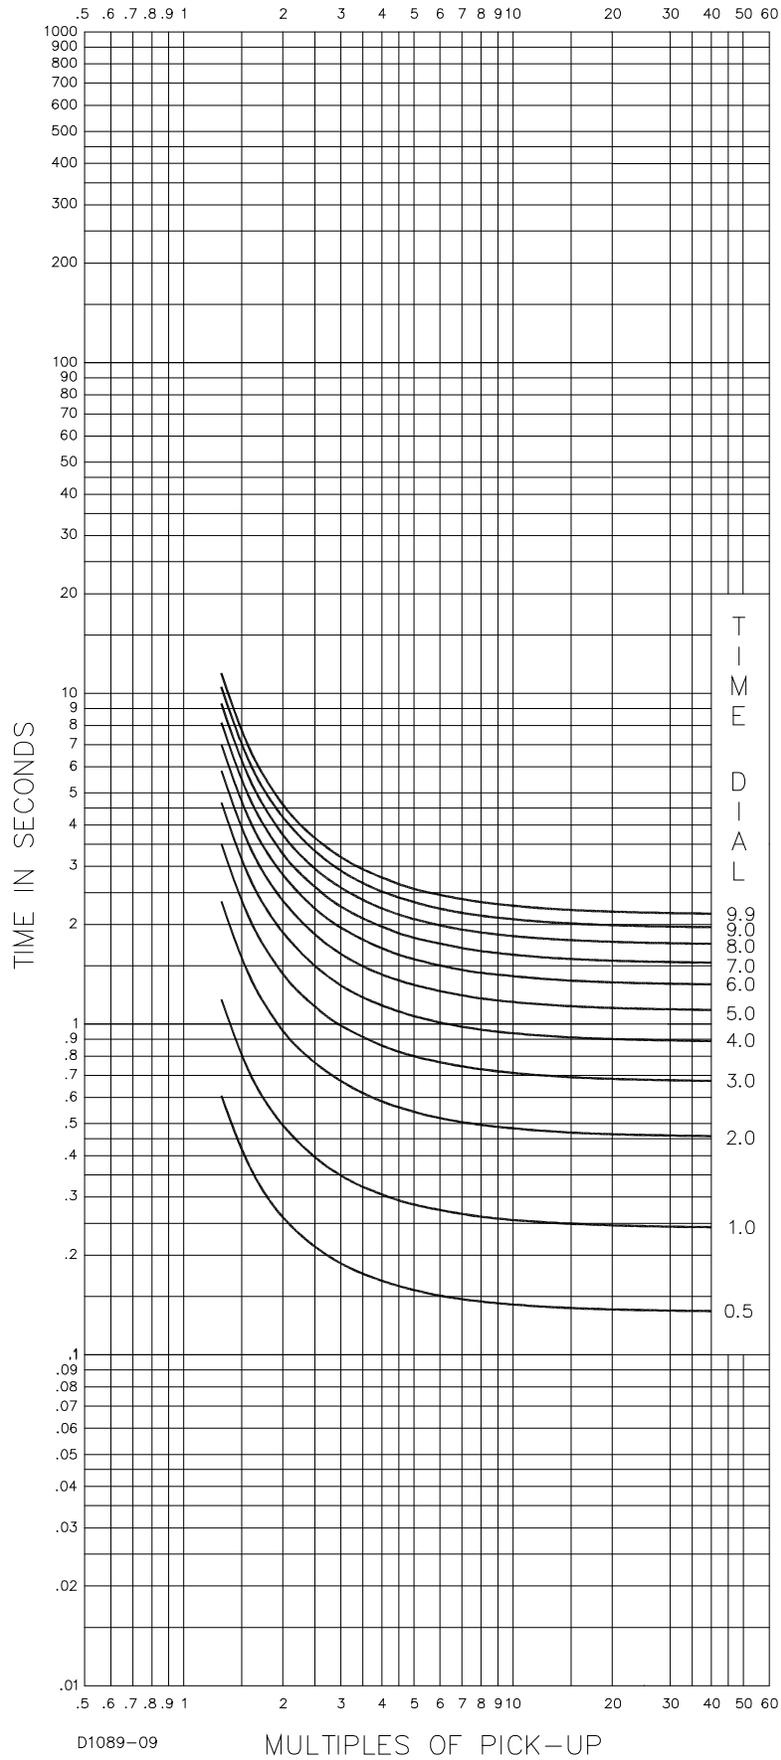

Figure 7-3. D-Definite Time Curve (Similar to ABB CO-6)
- D-Definite Time (Similar to ABB CO-6): Figure 7-3